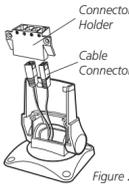

Figure 26
- Carefully pull the excess cable from beneath the mounting surface so the connector holder aligns with the mounting holes on the front of the mounting bracket (Figure 26).